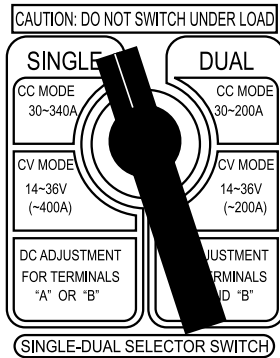

Figure 29. Single-Dual Selector Switch (Single Position)
- Place the welding mode selector switch (Figure 29) in the *single* mode position.